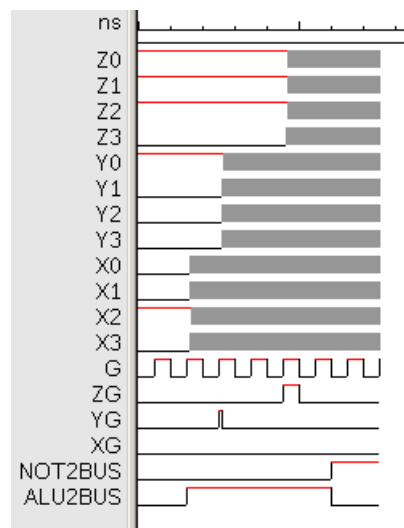

Figure 9: Waveform for circuit
- (d) Figure 9 waveform shows the testing. As you can see, the registers simulate with a fuzzy value after a few iterations. I have used those same registers before and they performed well. The circuit seems valid and the CU is making correct decisions. I also tested the ALU several times and it also seems to function properly. I have no idea what is causing the blurring. I have retried the simulation several times. Also the  $g$  signal for  $x$  is not shown properly as it is possibly labeled incorrectly. But you can see from the values propogating to it that it is functioning properly.